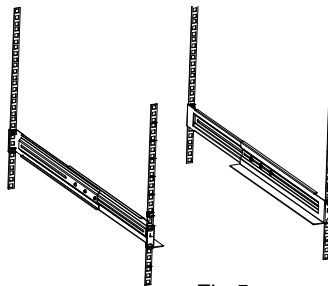

Fig 5
2. Assemble the rack rails with the rack-mounting. (Fig 5)